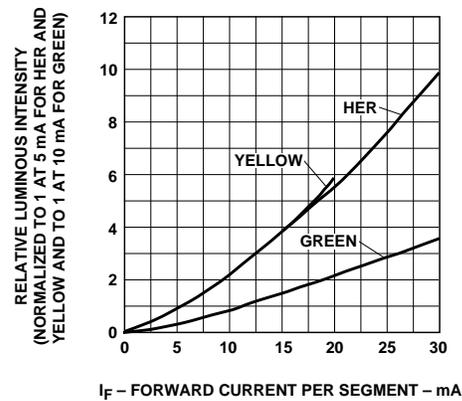

Figure 9. Relative Luminous Intensity vs. DC Forward Current.
2. See Figure 9 to establish pulsed conditions.